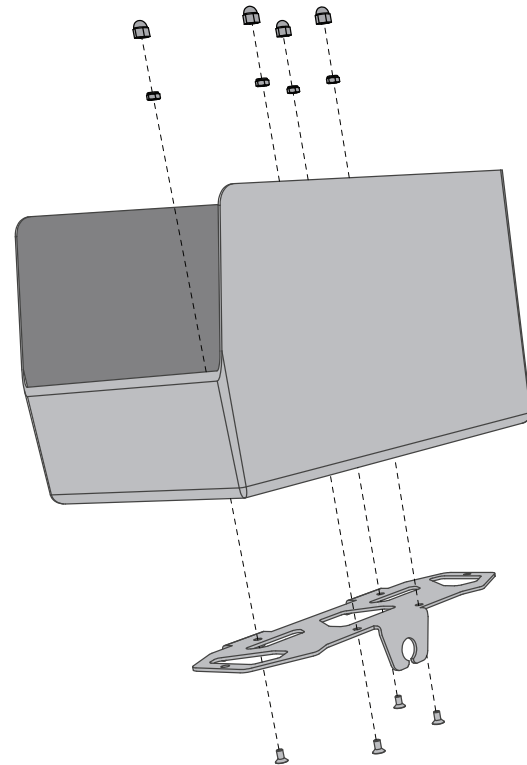

Figure 13. Install Quick Release Mount to Bin
2. Install a Quick Release Mount to each Open-Top Storage Bin using four 12 mm fasteners and four Nyloc nuts, as shown in **Figure 13**. Torque the fasteners to **6.0 N-m (4.4 ft-lbf)**.